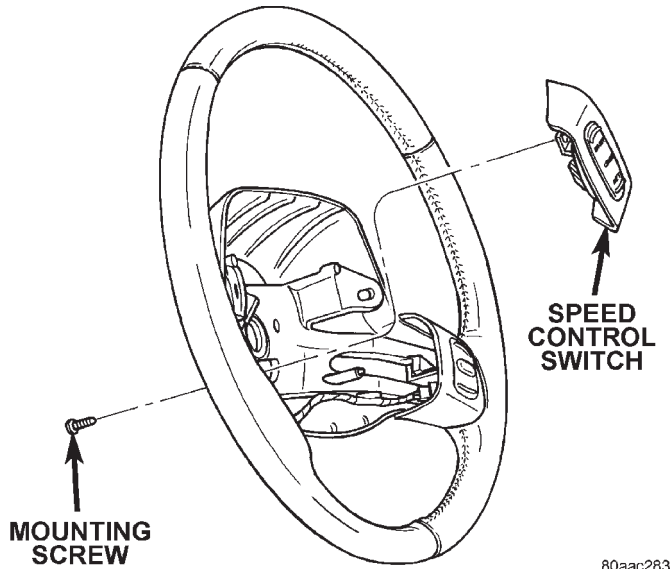

Fig. 4 Speed Control Switch Remove/Install
- (1) Disconnect and isolate negative battery cable from battery.
- (2) Remove airbag module. Refer to Group 8M, Passive Restraint Systems for procedures.
- (3) From underside of steering wheel, remove speed control switch mounting screw (Fig. 4).
- (4) Remove switch from steering wheel and unplug electrical connector.